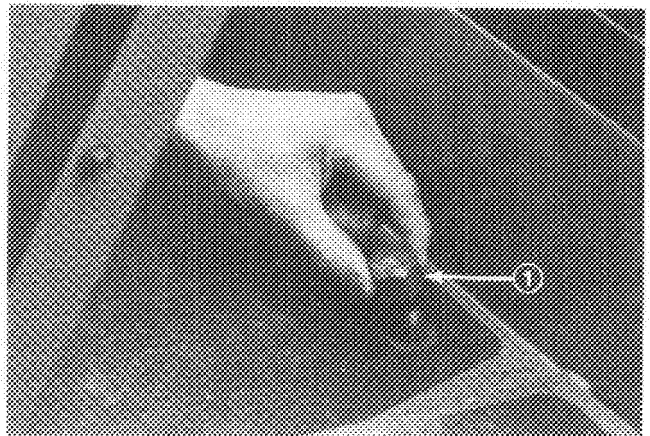

Figure 17
2. Remove dipstick cap (Fig. 17) from filler neck and wipe it with a clean rag. Screw dipstick cap finger-tight onto filler neck; then remove it and check level of fluid. If level is not within 1/2 inch (13 mm) from the groove in the dipstick (Fig. 17), add SAE 10W-30 engine oil, or, if used, automatic transmission fluid to raise level to groove mark. Do not overfill.